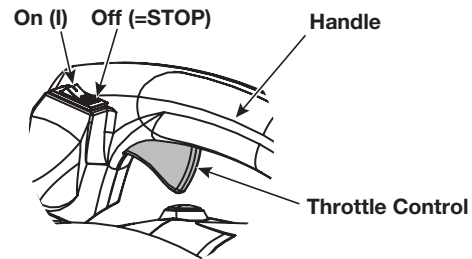

Fig. 5
- Note:** There is no need to turn the unit on. The On/Off switch is in the ON ( I ) position at all times (Fig. 5).
2. Press and hold the On/Off switch in the OFF (STOP) position until the engine comes to a complete stop (Fig. 5).